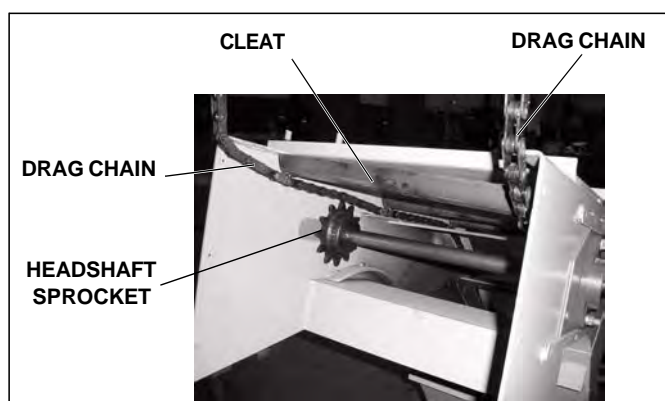

Figure 10. Feeding Drag Chain Assembly Into Discharge Opening (discharge hood removed)
2. Using a hoist or other suitable lifting device, lift the chain assembly and place the leading edge of the drag chain assembly on top of the headshaft sprockets, Figure 10. Feed the drag chain assembly down the incline to the filter drum.